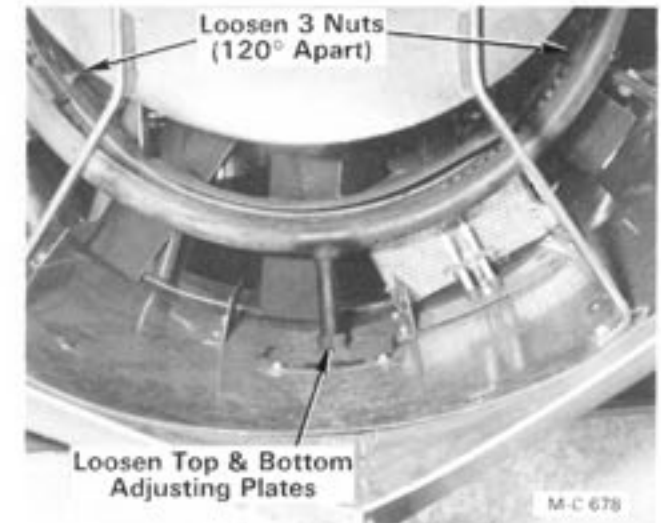

Figure 19 - LP Gas
E. Go into the plenum chamber and move the coil closer to or away from the flame, see Figure 19.